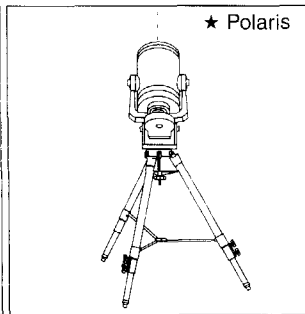

Fig. 19: Mount too far West.
- b. If the star drifts North (or up), the telescope's polar axis is pointing too far West (Fig. 19).